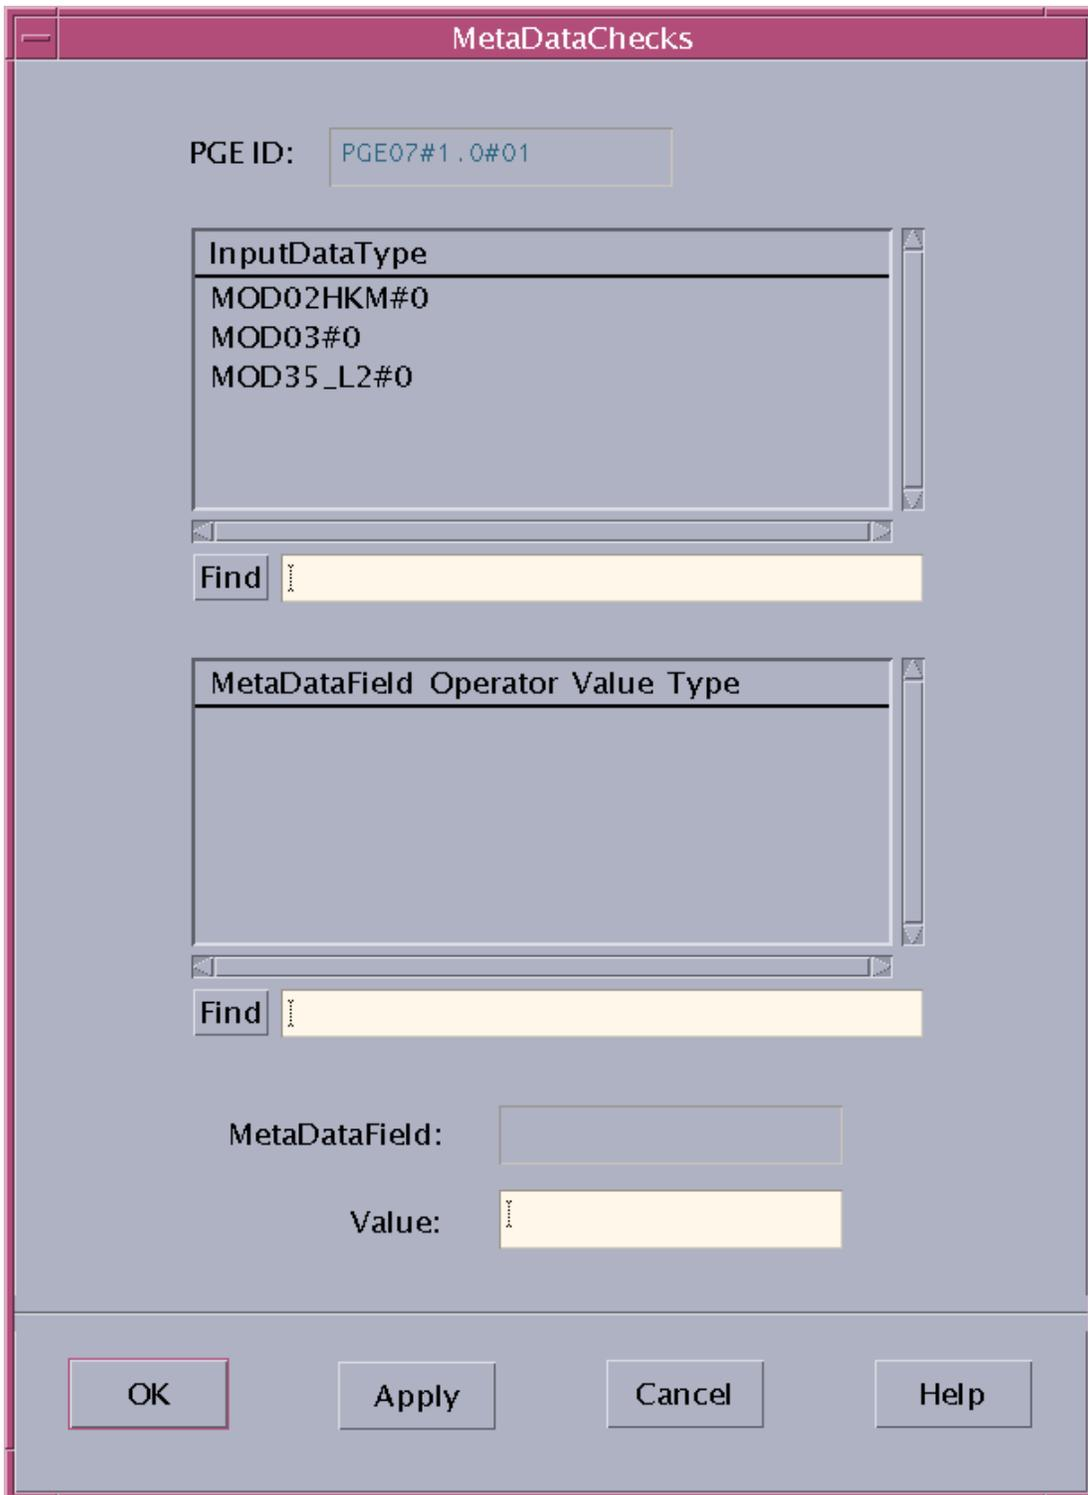

Figure 19. MetadataChecks GUI
- The **MetadataChecks** GUI page (Figure 19) is displayed.